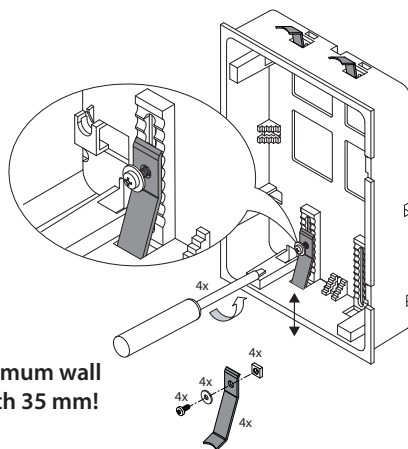

Fig. 7.1
1. Loosen 4 fixation screws on the fastening brackets in the bottom housing (fig. 7.1)